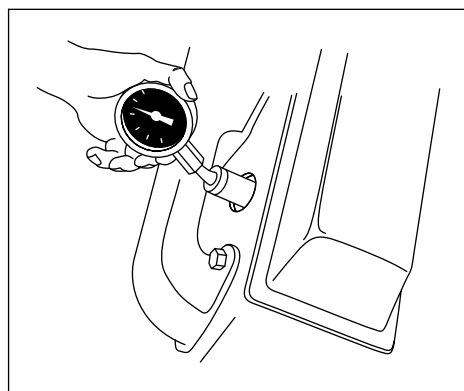

Figure 8-10: Checking compression.
Checking compression is easier if you have someone to assist you, especially if your gauge needs to be held in place (see Figure 8-10).
7. Insert the compression gauge into the hole in the engine where the first spark plug screwed into the cylinder (refer to Figure 8-10).